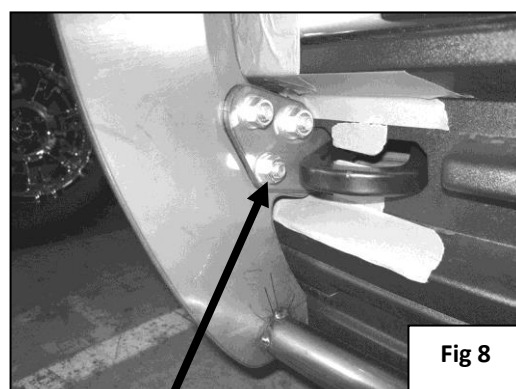

Fig 8
8. With help position the Grille Guard on the outer side of Mounting Brackets. Attach Grille Guard to Mounting Brackets using (6) 12mm x 30mm Hex Head Bolts, (6) 12mm Nylock Nuts, and (12) 12mm Flat Washers (**Fig 8**).